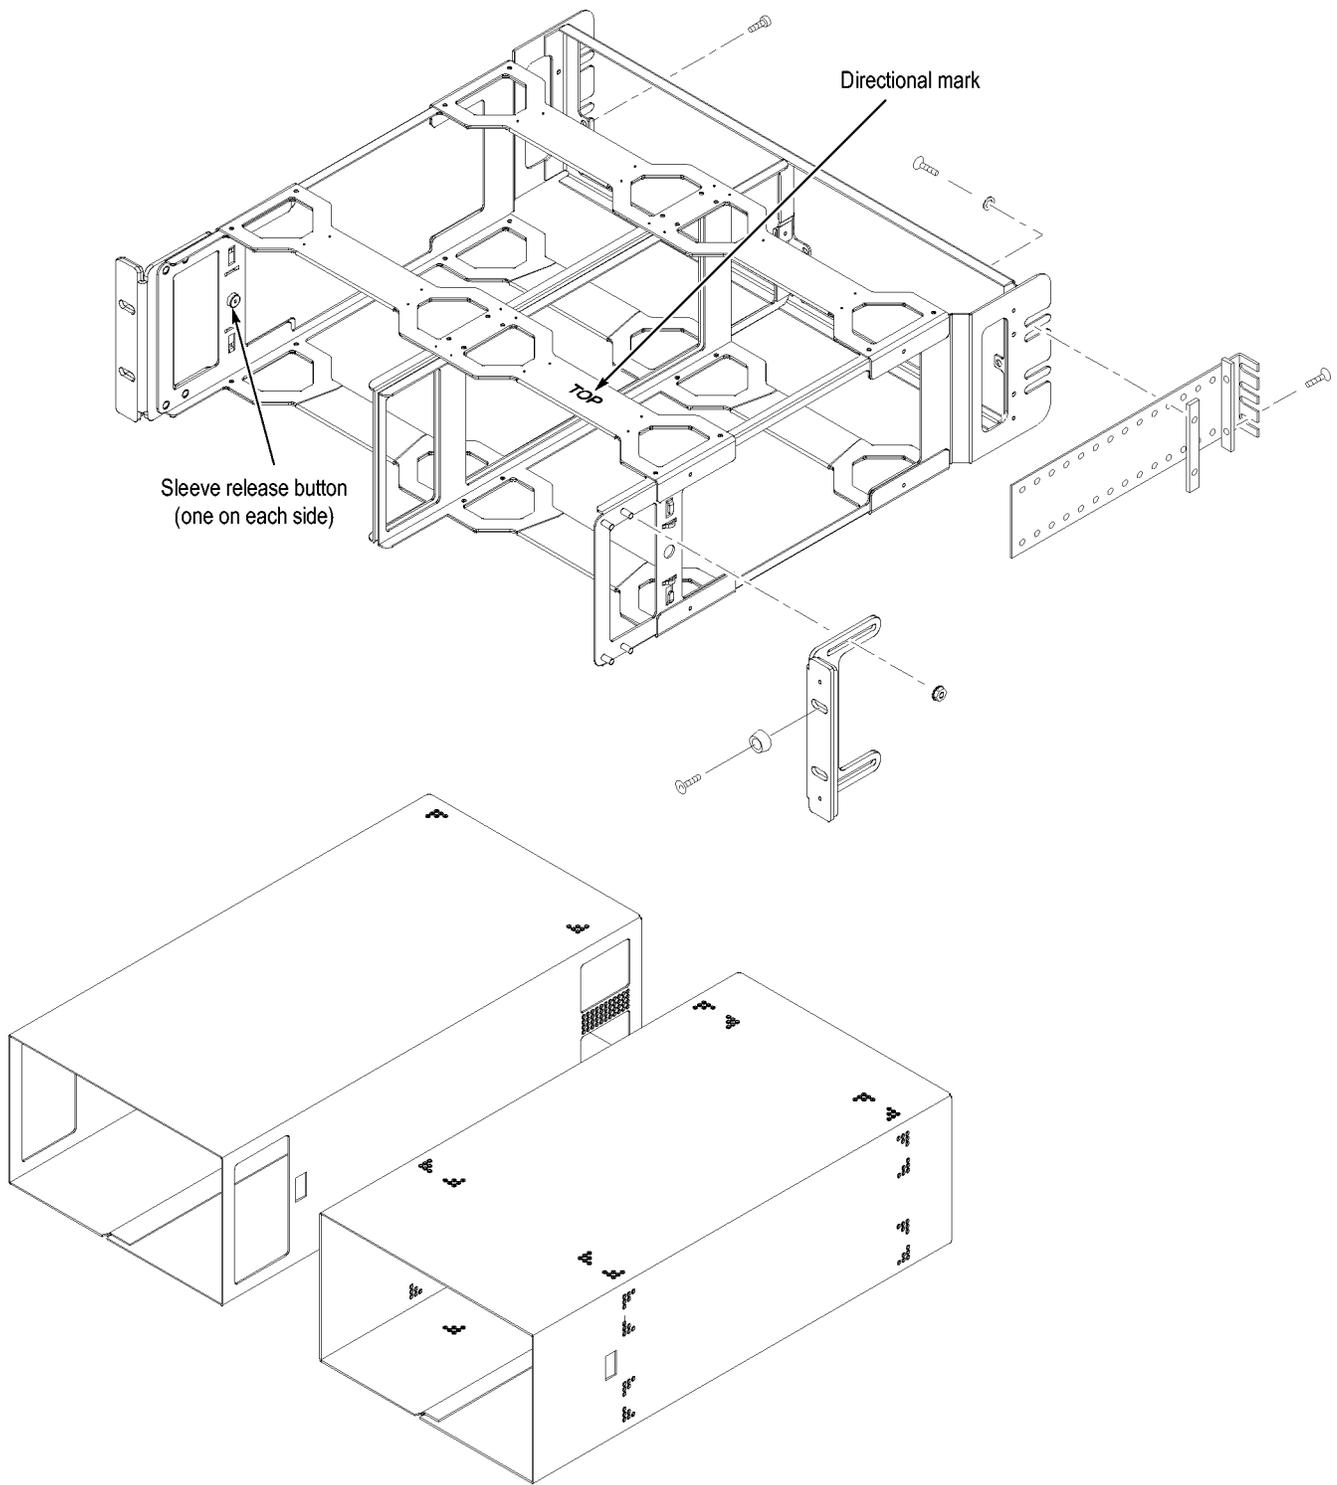

Figure 4: WFM7F05 exploded view
To install the waveform monitor in a 19-inch equipment rack, you must use the WFM7F05 Rack Adapter kit. The WFM7F05 is designed to house two half-rack instruments side-by-side in a rack. (See Figure 4 on page 18.)
- The rack adapter is marked with the word "TOP" to indicate which side of the adapter should face up. (See Figure 4 on page 18.)
- Press the sleeve release buttons to remove the instrument from the rack adapter. (See Figure 4 on page 18.)